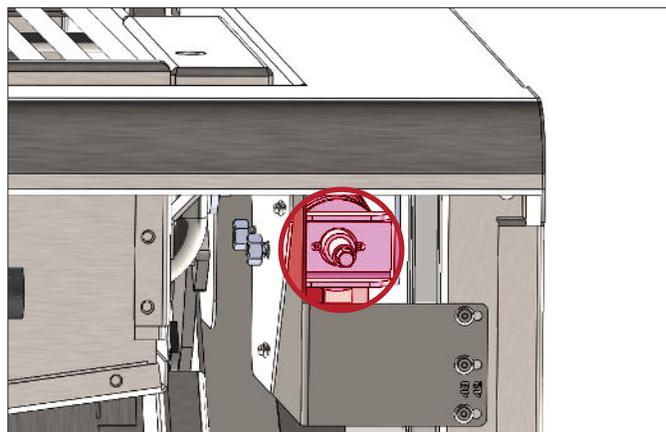

Fig. 2. Access the tension rod from the front.
3. With a 7 mm socket, turn the tension rod to change the spring tension. **See fig. 2.**